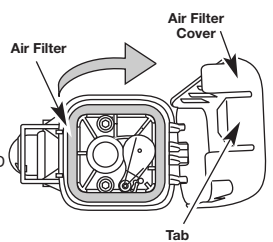

Fig. 21
- Open the air filter cover. Push the tab on the left side of the cover inward. Then pull the air filter cover out and to the right (Fig. 21).
- Remove the air filter (Fig. 21).